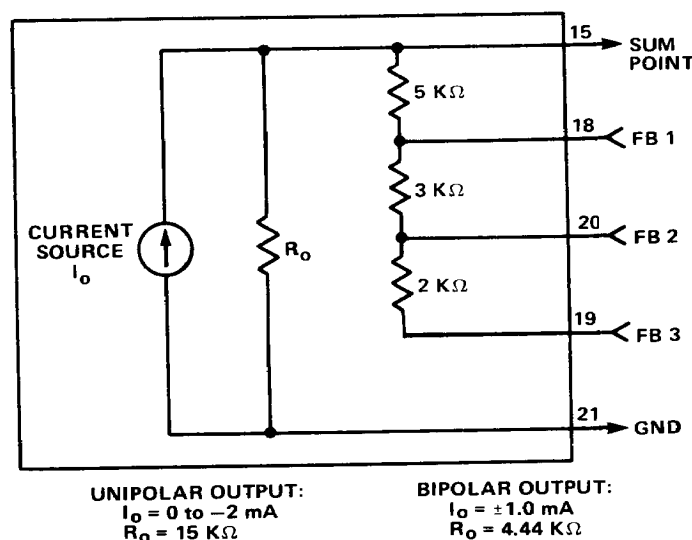
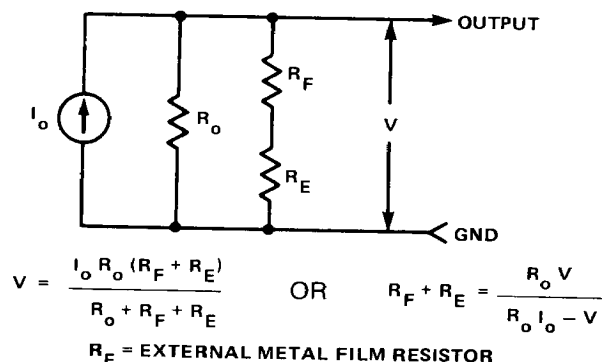

FIGURE 5. EQUIVALENT CIRCUIT FOR (DDC DAC87-CBI-I)
FIGURE 6. EQUIVALENT CIRCUIT FOR DRIVING A RESISTIVE LOAD
Figure 5 shows the equivalent circuit for the current output model of the DDC DAC87. The converter is represented by a current source with a parallel resistance R_O and a chain of three feedback resistors. The output is unipolar if the Bipolar Offset is connected to ground, and bipolar if it is connected to the Sum Point.
1. Driving a Resistive Load. An equivalent diagram for driving a resistive load and using the internal resistors to regulate the load voltage is shown in Figure 6. I_O and R_O have the values given in Figure 5. R_F represents the pin programmed internal feedback resistance and R_E represents additional external resistance in series with R_F . The equations in Figure 6 show the relationship between the voltage V across the load and $R_F + R_E$. Two examples will be discussed, unipolar coding with an output voltage range of 0 to -2V, and bipolar coding with a voltage range of $\pm 1V$. To obtain the least temperature drift, R_F should be made as large as possible relative to R_E .